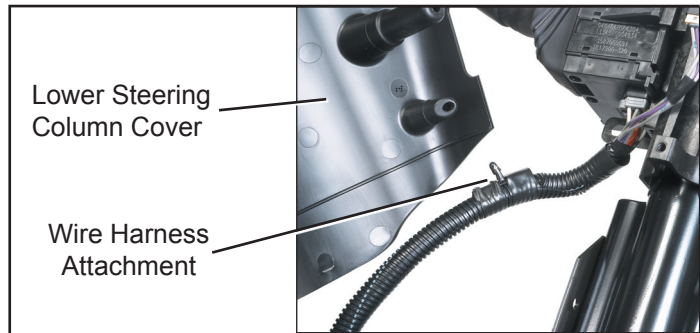

Figure 3 - Wire Harness Attachment
2. Remove the wire harness attachment from lower cover to allow complete removal of the upper and lower halves. See Figure 3.
5. Reinstall the column covers starting with the lower cover. Secure the wire harness and clip to the cover before installation. Refer to Figure 3. Align the steering column screw hole of the bottom cover with the steering column hole. Install the column screw and torque to 20-40 in-lbs. Align the top cover with the bottom cover and install the two post screws. Tighten the post screws to 10-25 in-lbs. Use the column screw and two post screws that were removed in step one of the disassembly.